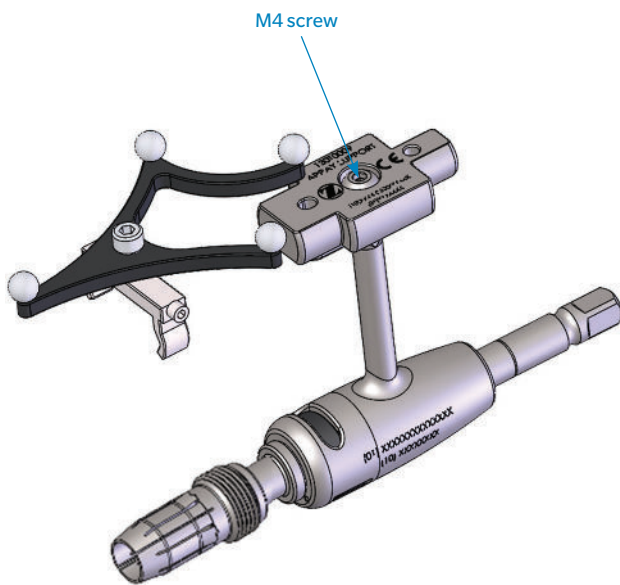

Figure 4
- Attach the array support to the array holder with a M4 screw utilizing the 2.5 hex driver until it is securely attached. (Figure 4).